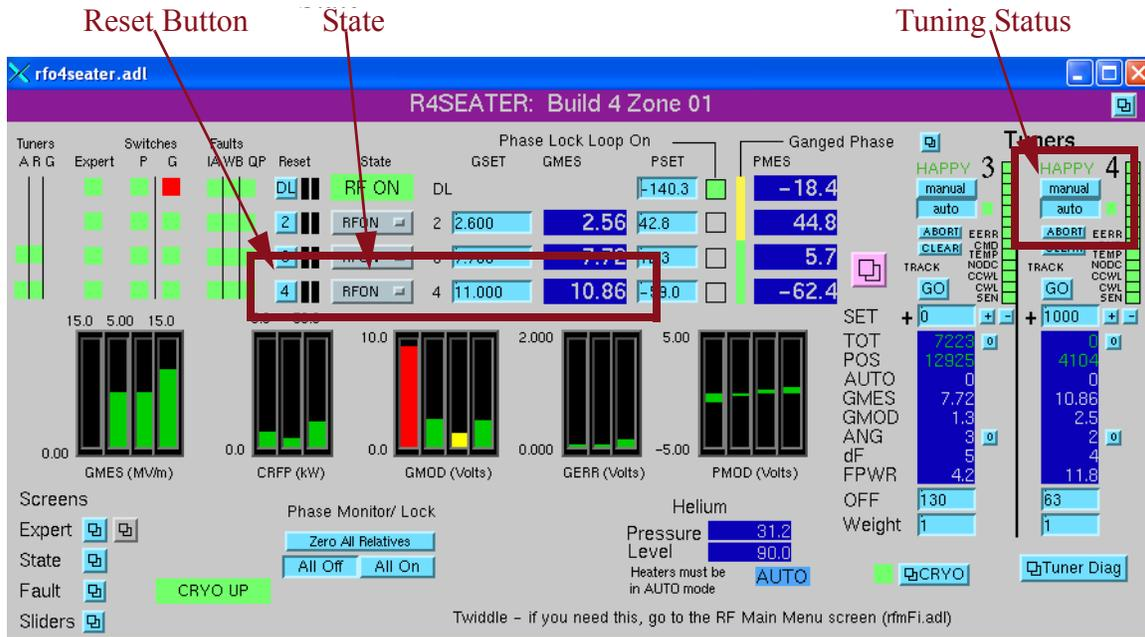

Figure 7-1: RF 4-Seater screen
1. Open the *Ops 4 Seater* screen from **FEL Main Menu**⇒**RF**⇒**RF FEL Main Menu**⇒**Ops**⇒**Ops 4 Seater** (Figure 7-1).